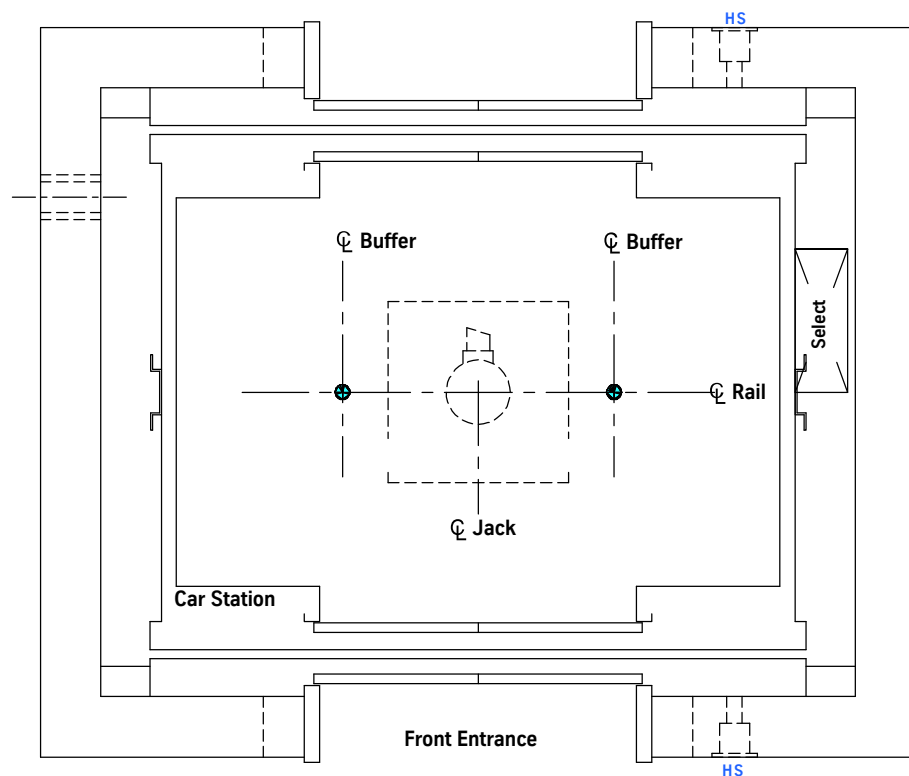

Figure 3 - Example Layout
2. From the top landing, check the travel and plumb of the front walls and floor landings. See Figure 3.